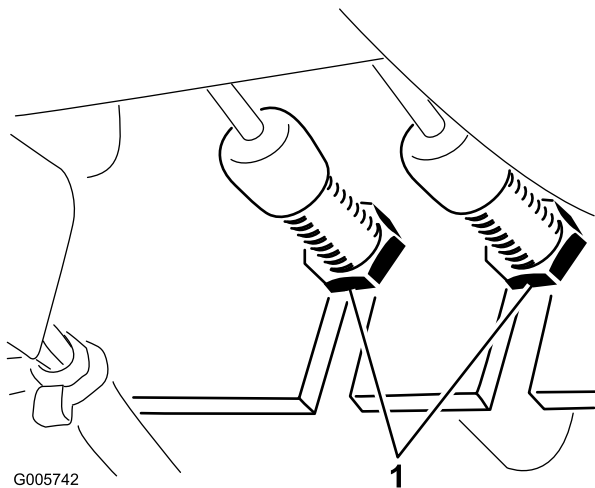

Figure 60
1. To reduce free travel of turn pedals—tighten the brakes—loosen front nut on threaded end of brake cable (Figure 60). Then tighten rear nut to move cable backward until turn pedals have 1/2 to 1 inch (13 to 25 mm) of free travel. Tighten front nut after brakes are adjusted correctly.